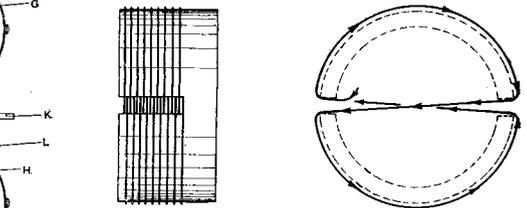

Fig. 20. A D or figure 8 coupling coil.
(J) When a fairly loose variable coupling is required, it has been found convenient to use coupling coils built as shown in Fig. 20. In the simplest arrangements, two coils